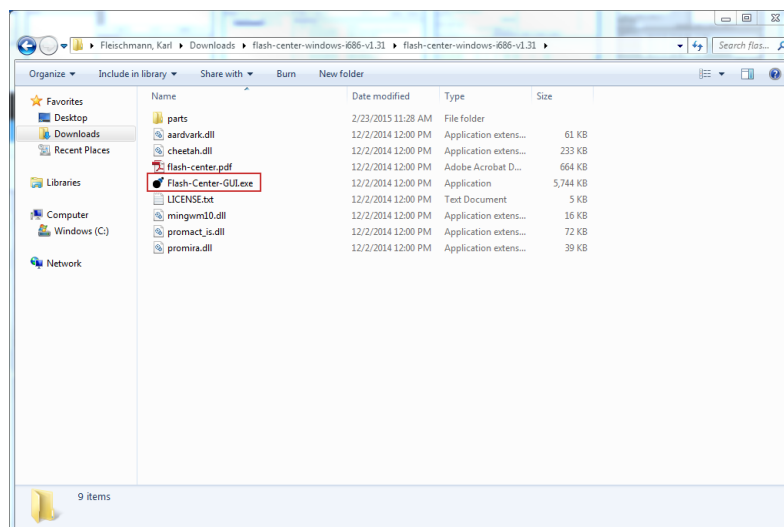

Figure 25. Open Aardvark Adapter Software
2. Boot up the Flash Center software from the directory location where it was previously installed, as shown in Figure 25.
2. Select the Aardvark adapter, as shown in Figure 25.